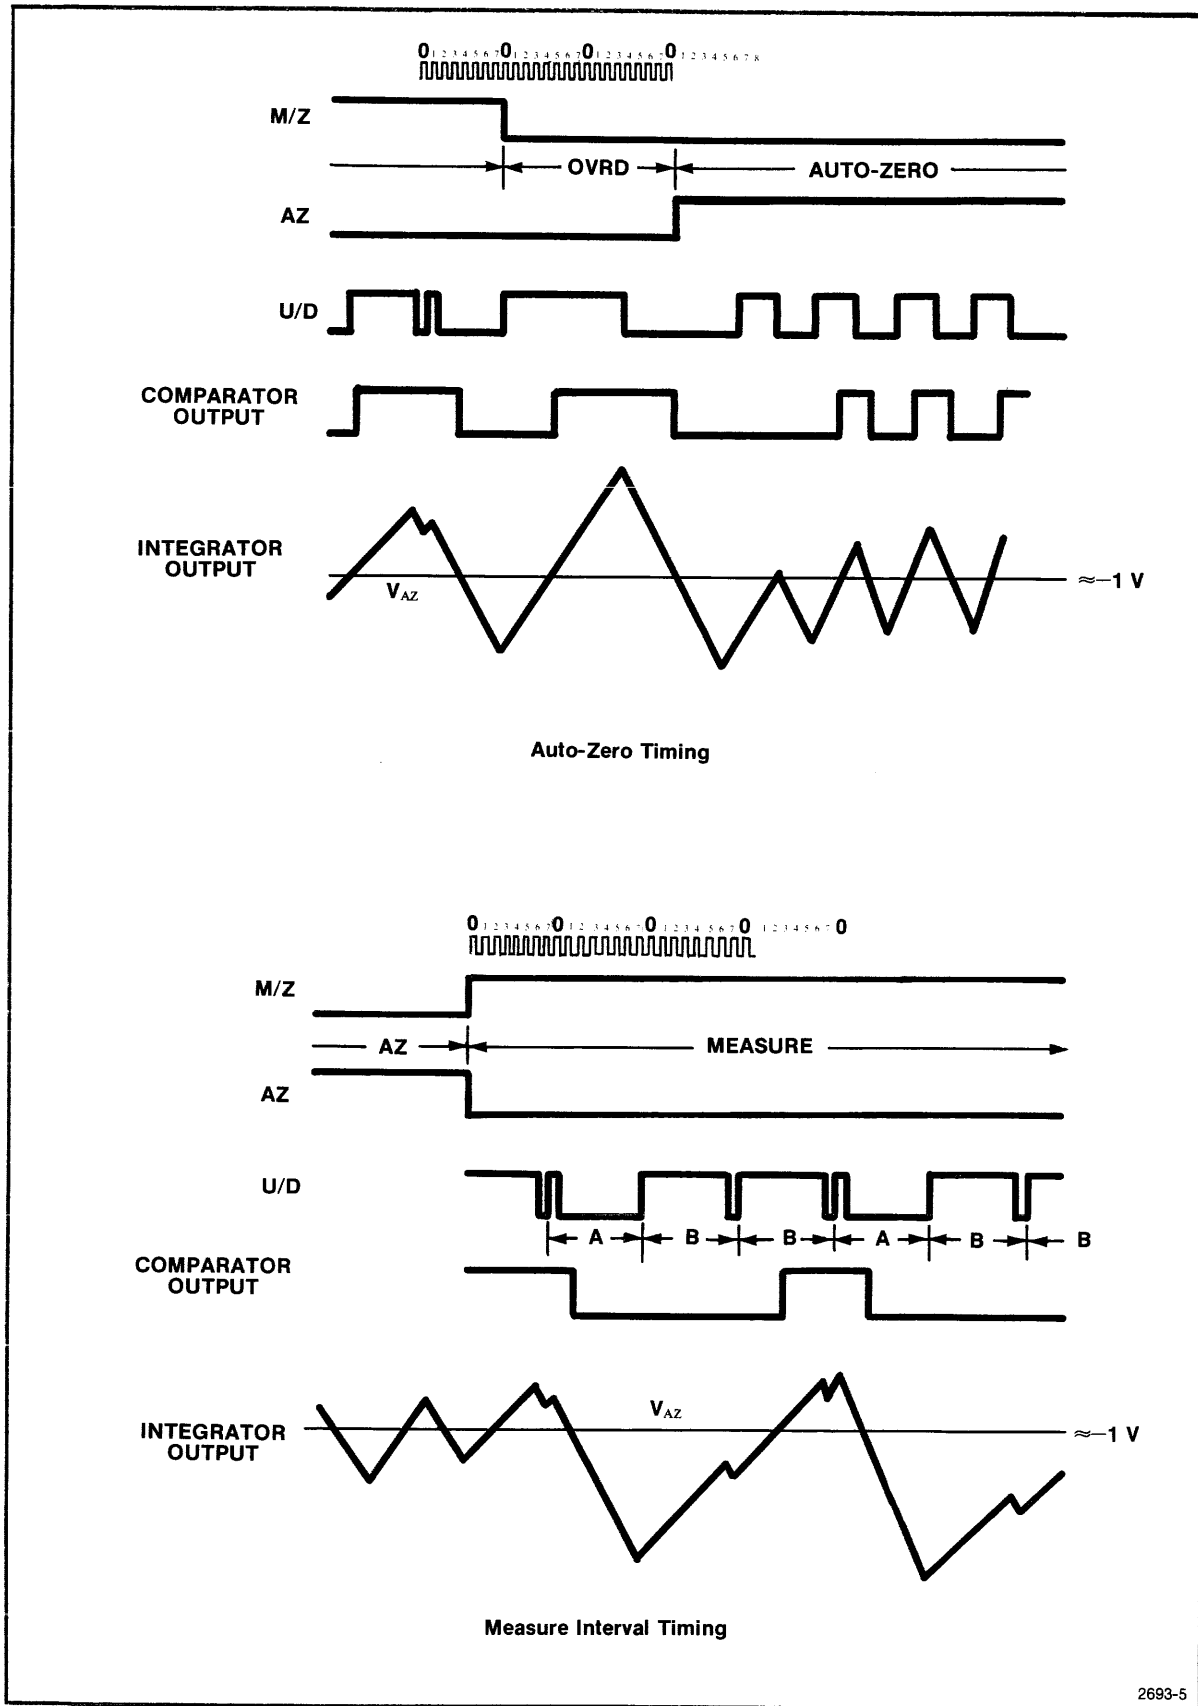

Fig. 3-1. Auto-zero and measurement interval timing sequences.
Referring to Fig. 3-1, during the auto zero (AZ) interval the offset voltages generated in the internal amplifiers are nulled. A tracking reference voltage is automatically established. This voltage is necessary for bipolar conversion. The auto zero sequence is initiated when the measure-zero (M/Z) signal from U1311 switches the input buffer amplifier to ground. After a brief count correcting override period, the auto zero amplifier and integrator are connected together. During this time, the control logic in U1311 ignores the comparator output and pulses the internal up-down switch of U1461 at a 50% duty cycle (4 clock periods up and 4 clock periods down). Equilibrium of this system is attained when the average currents through R1458, R1443, and R1455 are equal and opposite. The auto zero voltage is thus established and stored on C1562. This is approximately -1 V and is noted on Fig. 3-1. This auto zero voltage stored on C1562 establishes a reference voltage for the up-down (U/D) logic to switch either a plus or minus reference current to the integrator during conversion. When the up-down line (U1461, pin 4) is high, the reference voltage is positive. The auto zero time interval is sufficient to ensure that the auto zero voltage is well established.
The digital control logic in U1461 feeds units of charge (controlled by an analog comparator) to the integrating capacitor, C1432. This charge balances the charge supplied to the integrator by the analog input voltage. The sign of the charge fed back depends on the two up-down duty cycles available during the measurement interval as shown in Fig. 3-1. The comparator output is high when the charge on C1432 is above approximately -1 V and low when the charge is below approximately -1 V. The clock for the converter is generated by U1611. Potentiometer R1523 is adjusted for a frequency of 20.48 kHz. The up-down logic is high for 1 clock cycle and low for 7 clock cycles for a high comparator output in the clock cycle preceding the set of 8 cycles just described. This is designated duty cycle A. When the comparator output is low in clock cycle 7, the up-down logic is high for 7 cycles and low for 1 cycle during the 8 clock cycles following duty cycle A. This is shown as duty cycle B. The bottom waveform in Fig. 3-1 shows the effect of these two reference current duty cycles on the integrator output (pin 11 of U1461). When the up-down logic is in the high state (duty cycle B), the integrator output voltage rises. The bcd counter in U1311 increments by each clock pulse when the up-down logic is high and decrements by each clock pulse when the up-down logic is low. The net count increases by 6 counts for the B duty cycle and decreases by 6 counts for the A duty cycle.